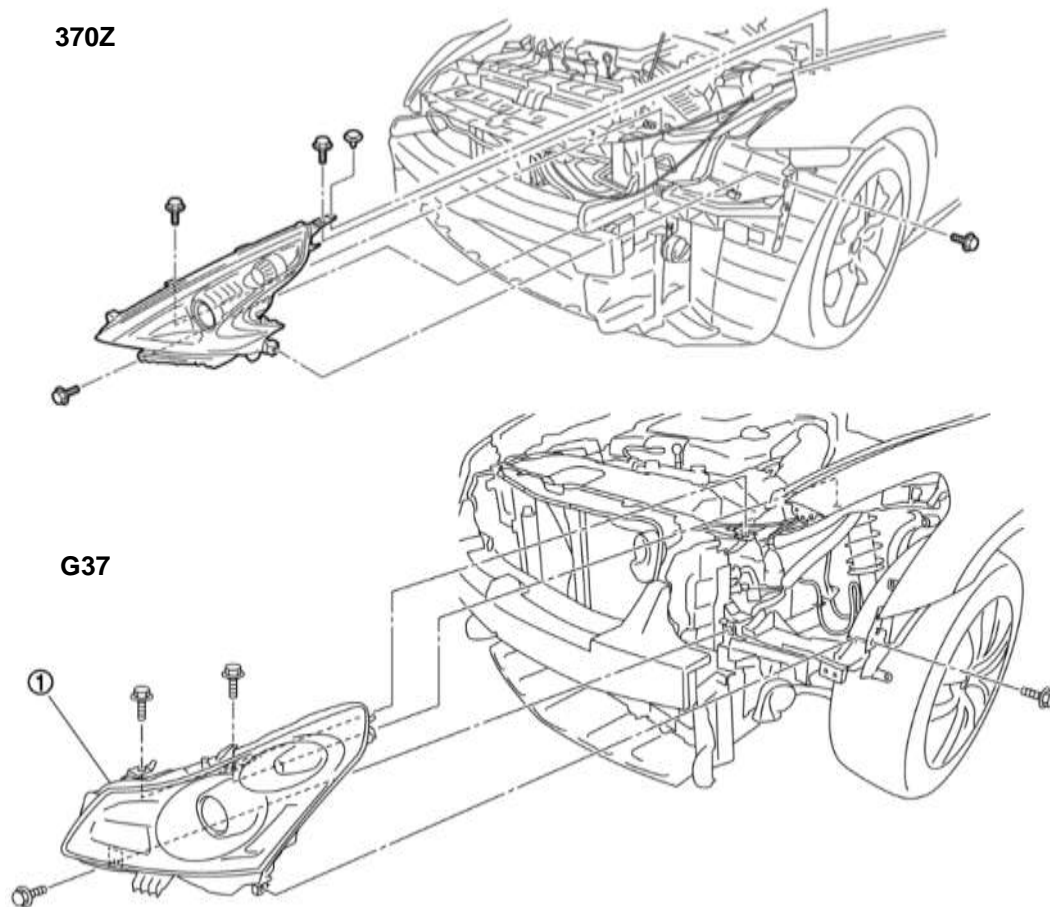

Figure 6
34. Disconnect the electrical connectors and remove the (3) three screws and (1) one plastic push-clip securing the headlights. Remove the headlights and set aside. While not required, performing this step will give you more access and prevent damage to the headlights. View *Figure 6* below.